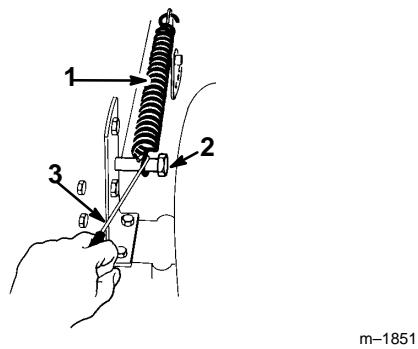

Figure 44
11. Hook the height-of-cut lift assist spring onto the retaining bolt (Fig. 44), using the spring tool provided with the machine.